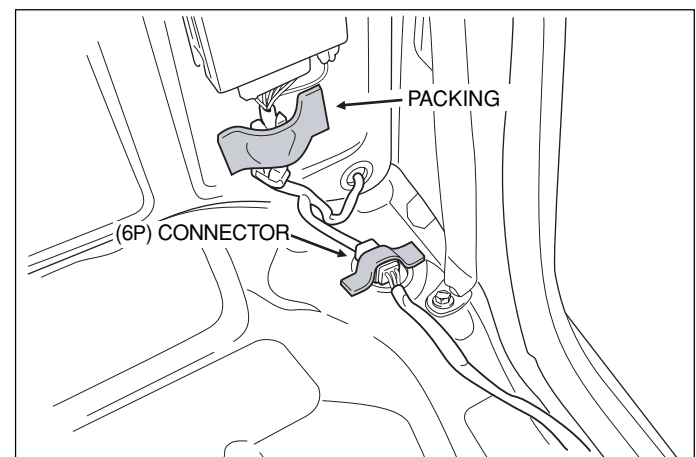

Fig. H8
- ➔ iv. Secure the convertor wire harness to the rear cab wall using 1 piece of packing (foam tape). (Fig. H8)
- ➔ v. Secure the (6P) connector using 1 piece of packing (foam tape). (Fig. H8)